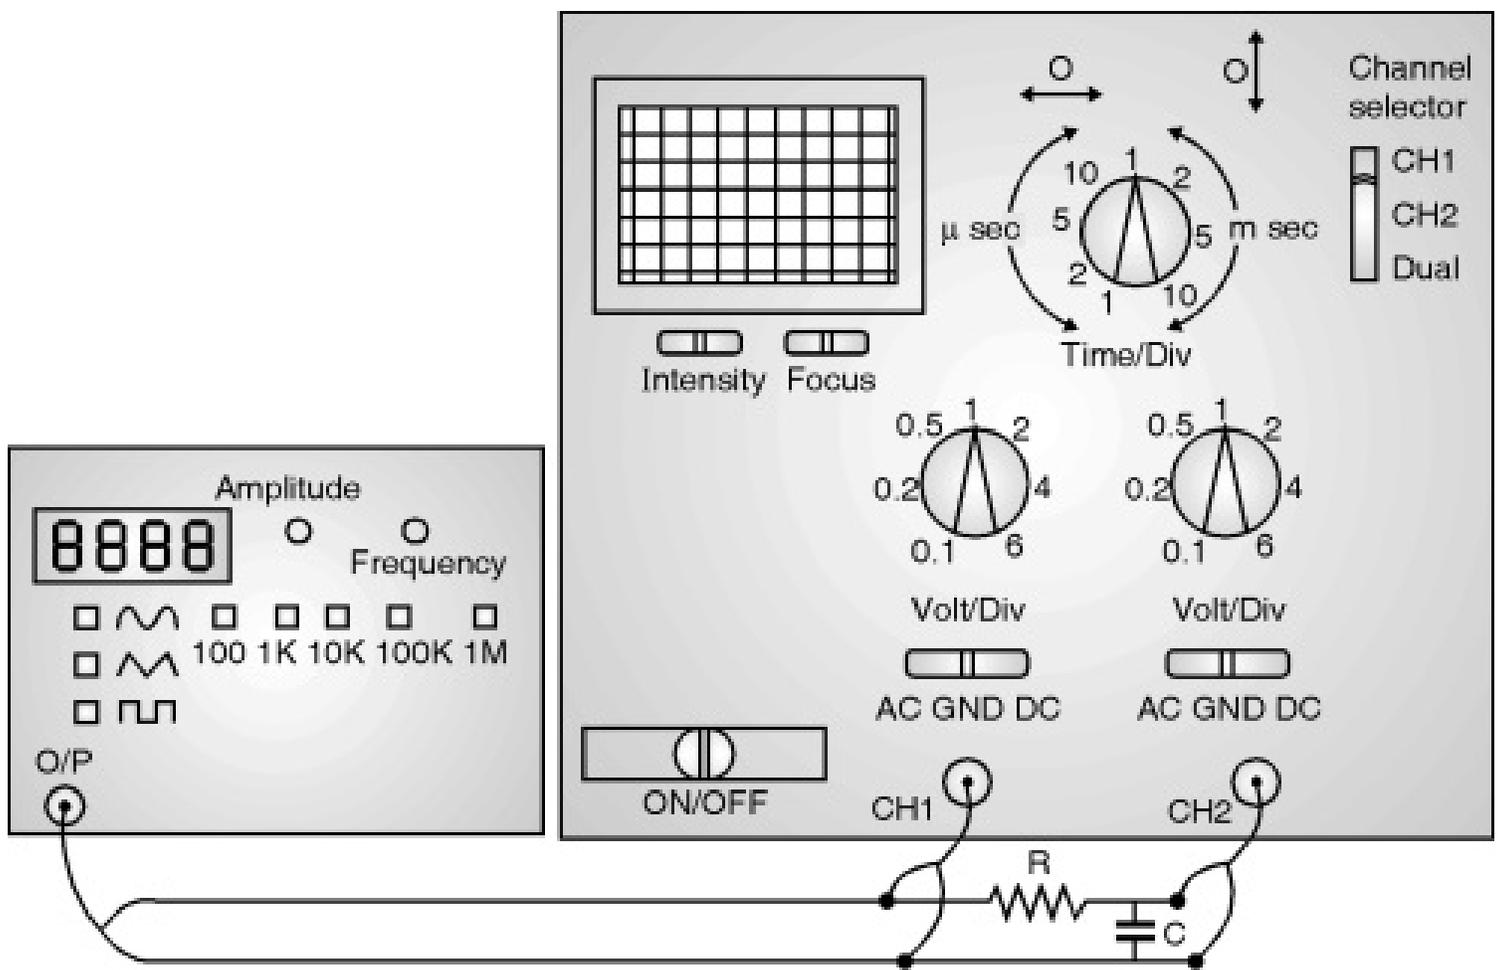

Fig. 7.15.6
- (1) The phase shift circuit is connected into the circuit along with the CRO and signal generator as shown in the Fig. 7.15.6. The RC network introduces a phase difference between the signals fed to CH1 and CH2.
- (2) The CRO is kept in dual mode and the function generator which is kept in sinusoidal mode is switched ON. The signal from the function generator is kept at a particular amplitude and frequency using the frequency selector knob.
- (3) Two signals of the same frequency are displayed on the screen. It is seen that the phases of the signals are different.
- (4) The vertical position settings of CH1 and CH2 are adjusted such that the two waves overlap on each other.